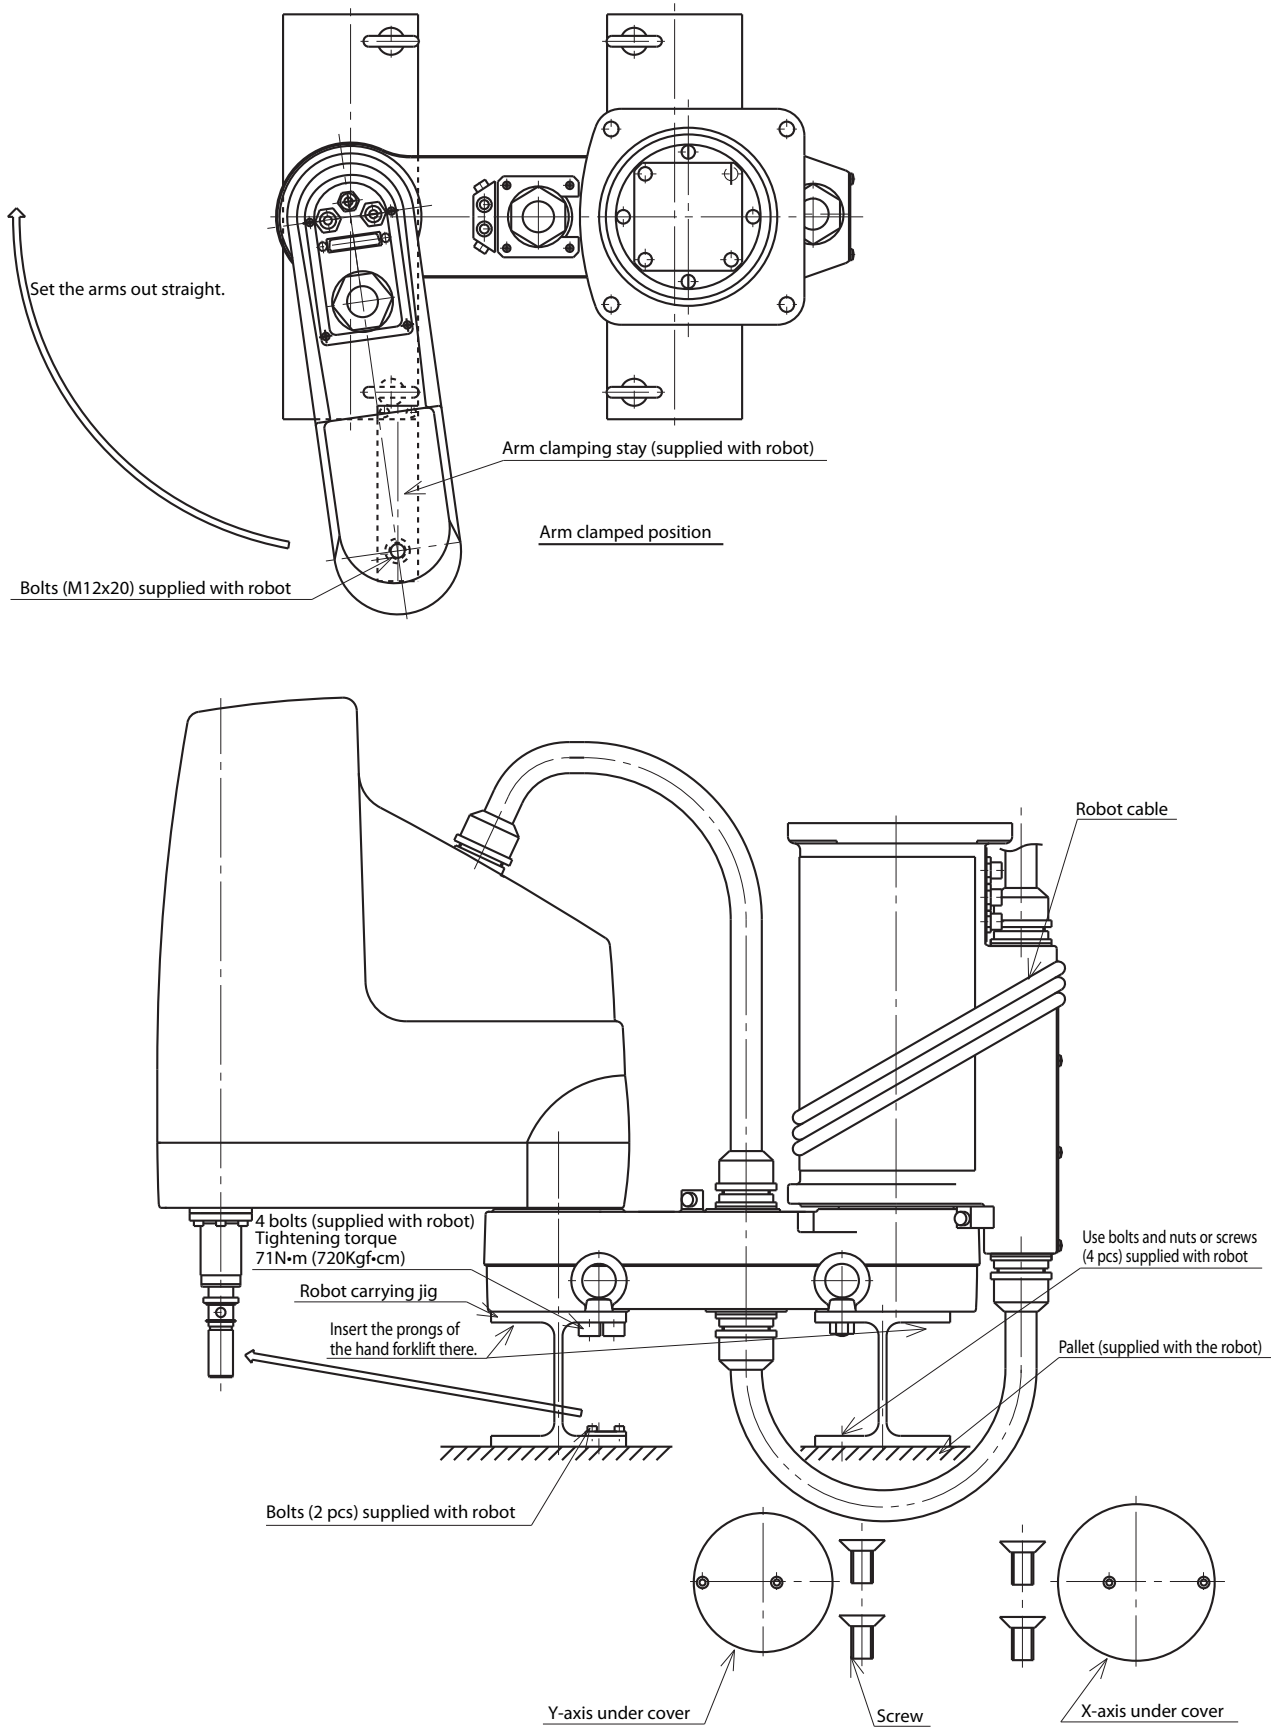

Fig. 2-5
- (2) When using the hand forklift (See Fig. 2-5)
- 2) Set the X- and Y-axis arms straight (See Fig. 2-5). If the robot is in the shipped state, remove the spline from the arm clamping stay, and set the X- and Y-axis arms straight. If the arms cannot be folded in the carrying position (see Fig. 2-5) due to the X-axis mechanical stoppers, then remove them.
- 2) Set the X- and Y-axis arms straight (See Fig. 2-5). If the robot is in the shipped state, remove the spline from the arm clamping stay, and set the X- and Y-axis arms straight. If the arms cannot be folded in the carrying position (see Fig. 2-5) due to the X-axis mechanical stoppers, then remove them. (When the robot is shipped, the mechanical stoppers are installed to provide the maximum movement range.)